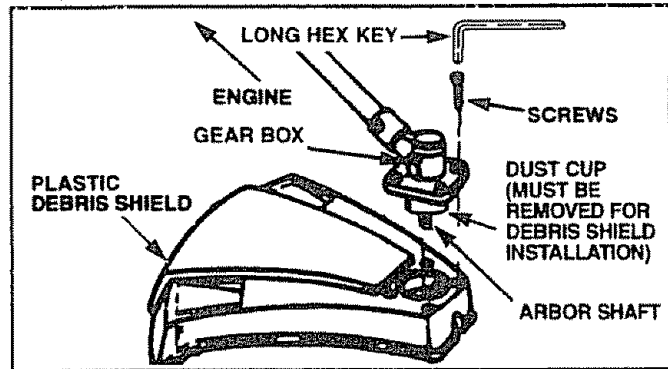

Figure 2
INSTALLING THE PLASTIC DEBRIS SHIELD (Fig. 2)
- Remove the dust cup from the arbor shaft (ref Fig. 2).